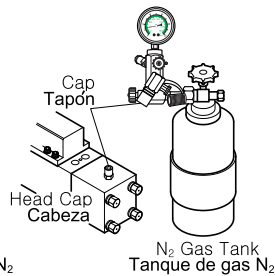

Fig 2
2. Remove the gas valve cap and the connector cap on the gas regulator. (Fig. 2)